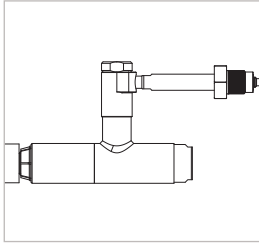

Figure 11
- ▶ Vent the pilot pressure again. The connector tightens itself to the test piece and creates a pressure-tight connection (Figure 11).